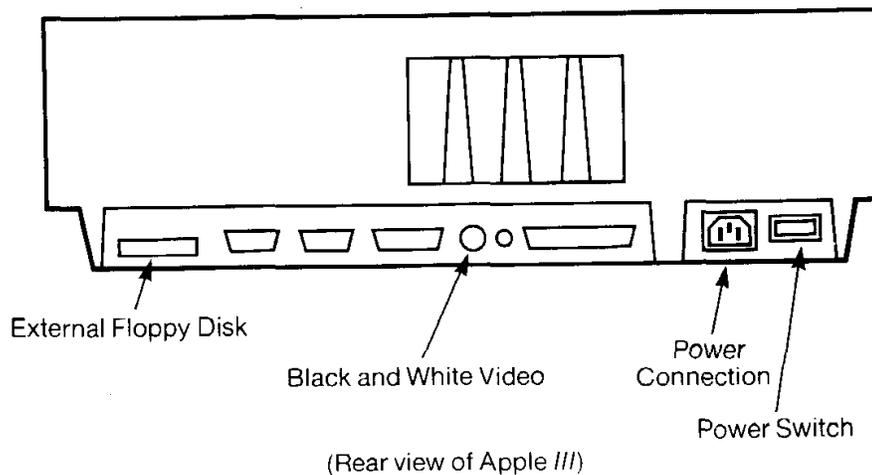

FIGURE 1
1. Make sure that the power switch on the rear of the APPLE III is in the "0" (off) position. See figure 1. (The "0" side of the switch should be pushed in.)